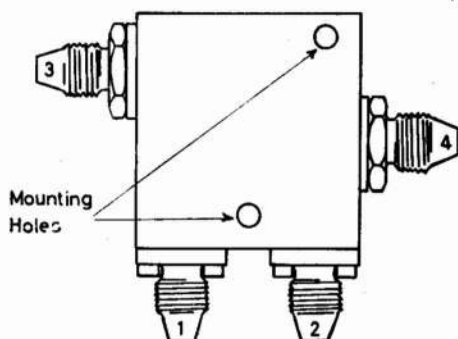

Fig. 3. Two-way check valve, Ref. No. 6D/2265
7. (1) Blank off connection 3 (fig. 3)
9. (1) Connect the air or oxygen supply to connection 3 (fig. 3). Slowly increase the supply pressure to 200 lb/in².
(2) Connect the oxygen leak tester to connections 1 and 2 in turn (*fig. 3*). Check that the leakage rate from either connection does not exceed 15cc/min. (8 bubbles in 10 seconds).
(3) Disconnect the leak tester and reduce the supply pressure to zero.
(4) Disconnect the gas supply and reconnect to connection 2.
(5) Connect the oxygen leak tester to connection 3 and increase supply pressure to 10 lb/in².
(6) Check that the leakage rate does not exceed 50 cc/min. (8 bubbles in 10 seconds). Disconnect the leak tester.
(7) Increase the supply pressure to 20 lb/in² and check that gas flows freely from connection 3.
(8) Reduce the supply pressure to zero and disconnect from the valve.
(9) Place the valve in the drying cabinet at a temperature of 70°C for one hour.
(10) After drying out the valve, fit the transit blanks to all connections.